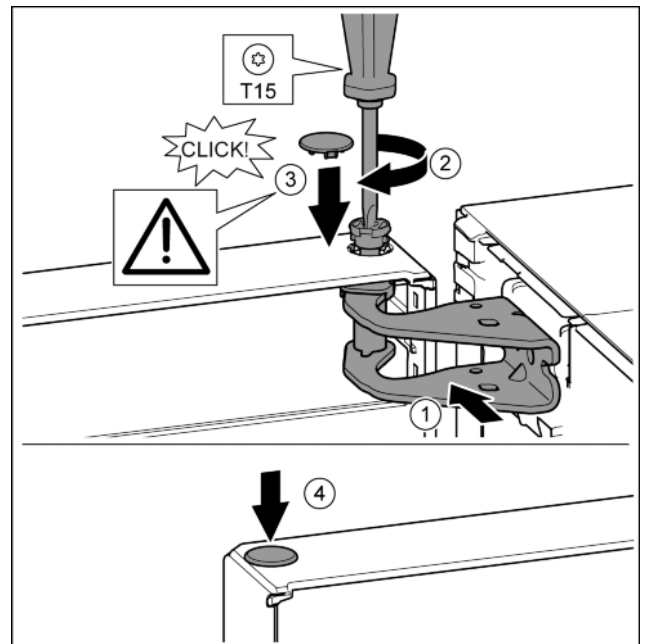

Fig. 17
- ▶ Align top of door with aperture in mounting block. Fig. 17 (1)
- ▶ Insert the bolt and tighten with a T15 screwdriver. Fig. 17 (2)
- ▶ Fit protective cover to protect the door: Insert the protective cover and check that it is attached to the door. If not, insert the bolt fully. Fig. 17 (3)
- ▶ Insert the plugs. Fig. 17 (4)